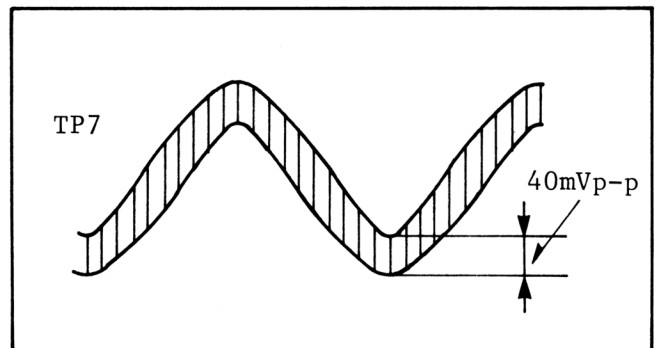

Fig. 2-5-21. Q RECORDING CURRENT
19. Adjust VR12 (Q CURR) to 40mVp-p at TP7 as shown in Fig. 2-5-21.